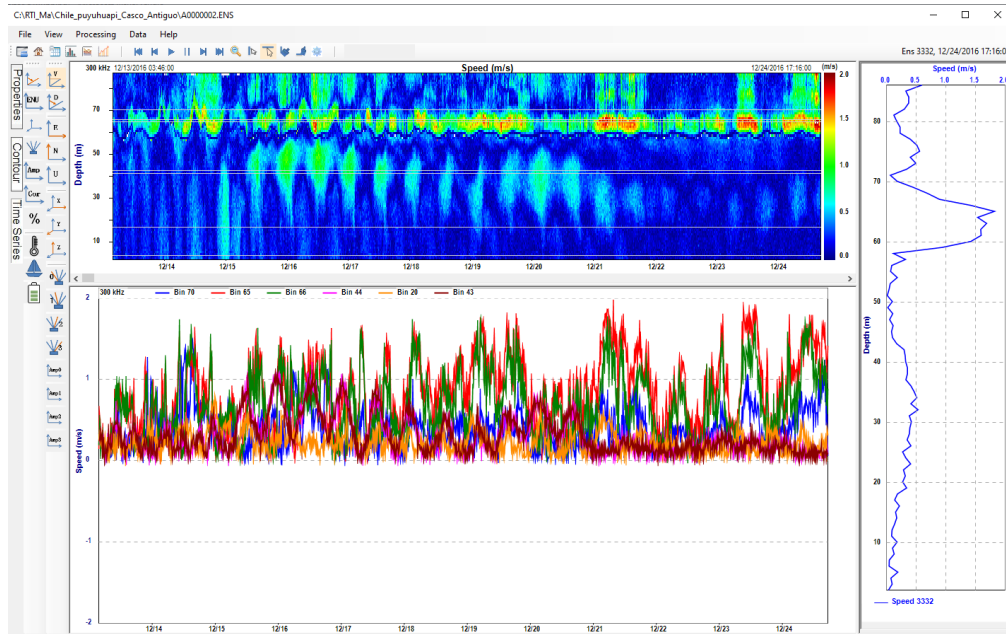

Figure 30. Timeseries Picker
**Pick TimeSeries** : pick different bins from the contour plot in the Home Page and show timeseries of the picked bins on the TimeSeries plots (Figure 30) in the Home Page. You can only select bins from one contour plot. In doing so,
Fourth, now you will see a white horizontal line on the Speed contour plot. click will select that bin data, the selected bin timeseries plot will be shown in the TimeSeries Plotting Area. Move mouse on the contour to different depth to select more bins. Figure 30 shows the result of the selected bin timeseries plots.